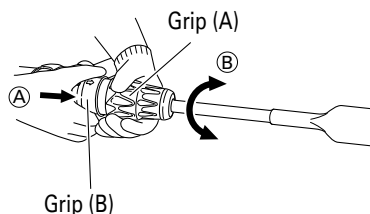

Fig. 4
- (1) As shown in Fig. 4, the blade angle can be freely changed if the grip (A) is turned in the direction of Ⓑ in a state where grip (B) is slid in the direction of Ⓐ.